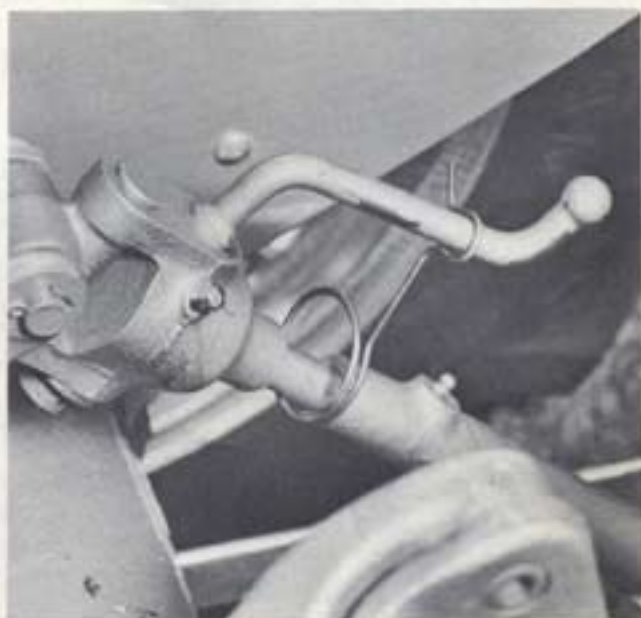

Fig. 18 Locking Clip on Crank Lever
3. Attach the locking clip to the hand crank lever (Fig. 18). This will preclude any chance of